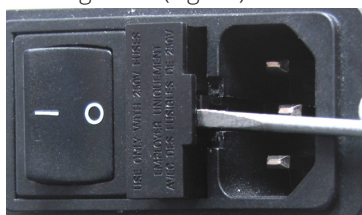

Fig. 64—Insert the screw driver under the fuse housing lip and pry the housing open.
3. Insert a small flat blade screwdriver under the lip on the right side of the fuse housing cover (Fig. 64).